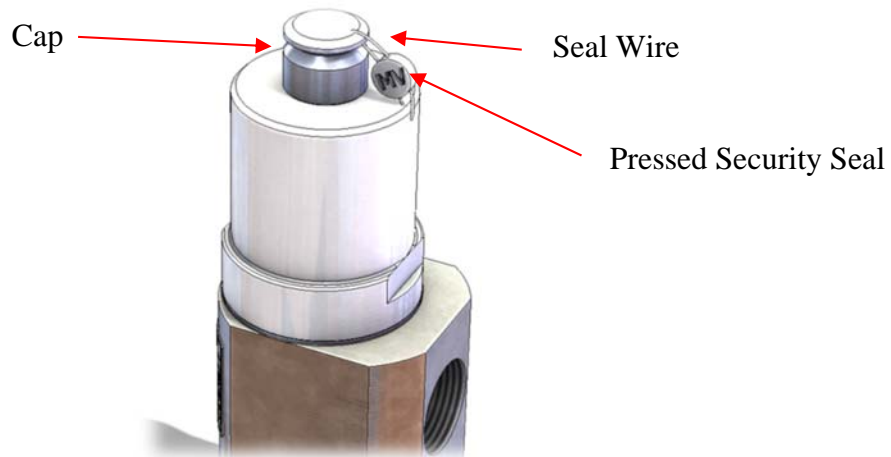

Figure 3: Typical Cap and Seal Wire
- Cap and Seal Wire – The valve cap and seal wire should be checked first on all inspections. These parts prevent adjustment tampering. On the seal wire, there is a pressed security seal that has an impression on it to indicate the certified company that last adjusted the set point of the valve. When this seal wire is cut or removed, it indicates that someone may have adjusted the set point or altered the valve. This voids any warranty the valve had. See Figure 3.